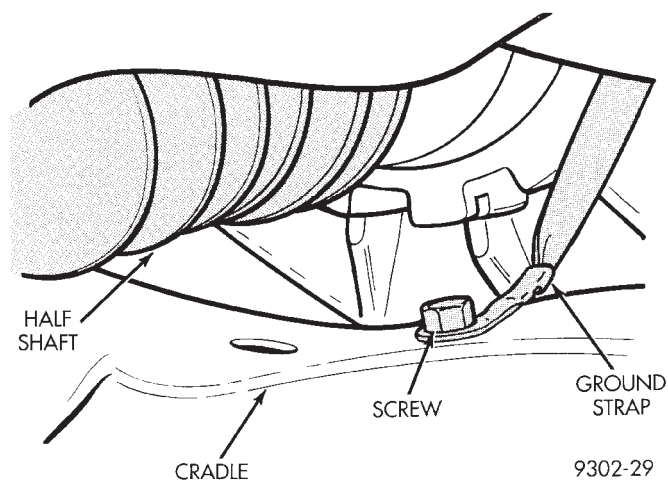

Fig. 46 Ground Strap
(5) Remove ground strap from cradle assembly. Ground strap is located on right side of cradle below driveshaft (Fig. 46).
(7) Install ground strap on cradle assembly (Fig. 46). Be sure ground strap to cradle screw is securely tightened.